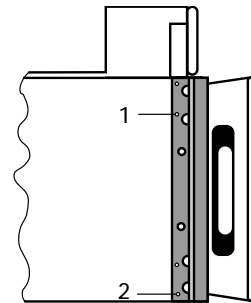

Fig. 8
- Remove the protective frame by removing screws 1 and 2 (see Figure 8). Remove the frame and replace screws.